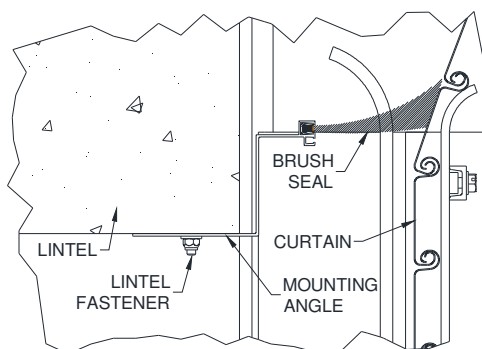

Figure 9.2 - “Z” Shaped Lintel Seal
4. Place the lintel seal at the bottom of the lintel with the brush contacting the curtain (in the closed position) with the bristles pushed to about a 45-degree angle. (See **Figure 9.2**)